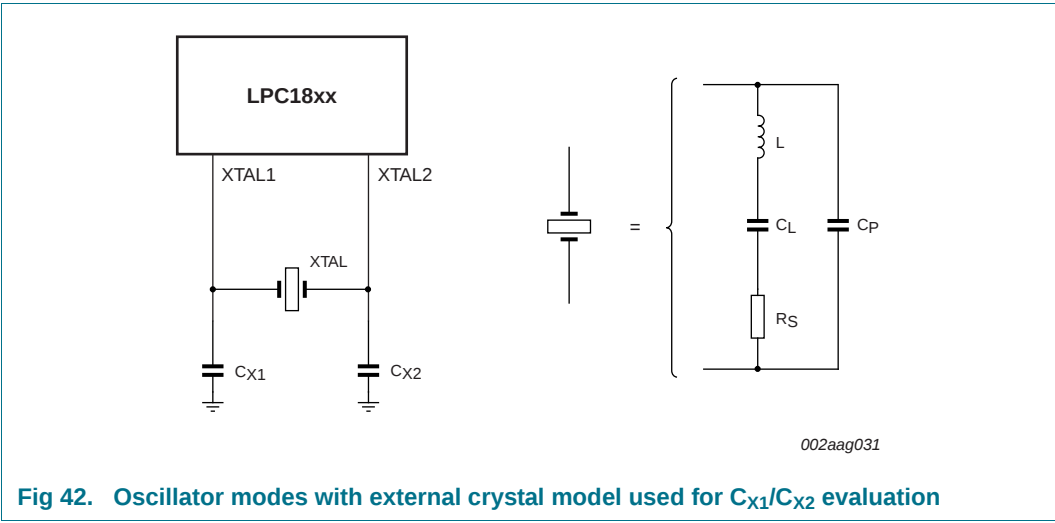

Fig 42. Oscillator modes with external crystal model used for C_{X1}/C_{X2} evaluation
- External components and models used in oscillation mode are shown in Figure 42, and in Table 41 and Table 42. Since the feedback resistance is integrated on chip, only a crystal and the capacitances C_{X1} and C_{X2} need to be connected externally in case of fundamental mode oscillation (L , CL and RS represent the fundamental frequency). Capacitance C_P in Figure 42 represents the parallel package capacitance and must not be larger than 7 pF. Parameters FC , CL , RS and CP are supplied by the crystal manufacturer.